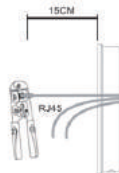

Figure 3-5
B. Pass all the wires through the silicone plug in the middle of the bottom case. All lines should be reserved for 15~20CM length, as shown in Figure 3-5.